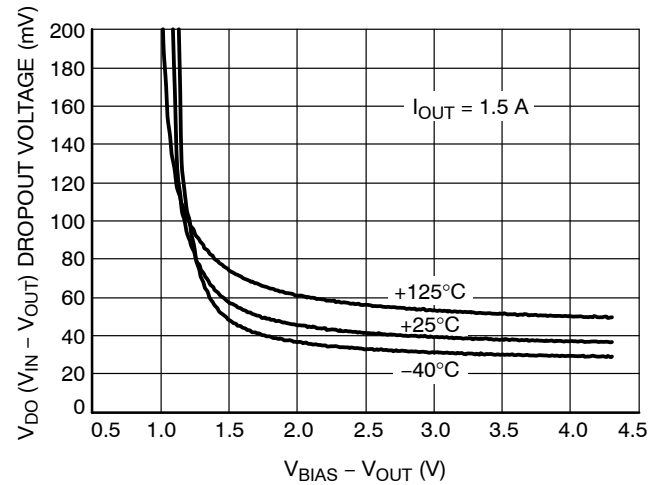

Figure 8. V_{IN} Dropout Voltage vs. $(V_{BIAS} - V_{OUT})$ and Temperature T_J
10. 3.25 V is a test condition of this device and can be adjusted by referring to Figure 8.